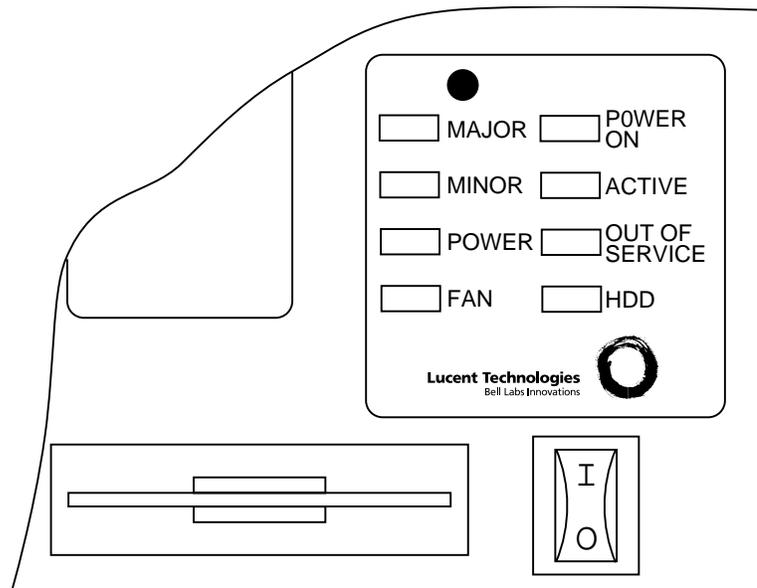

Figure 2. The CDSU-II Control Panel
8. Is the power switch at the CDSU-II control panel in the ON position? (See Figure 2.)